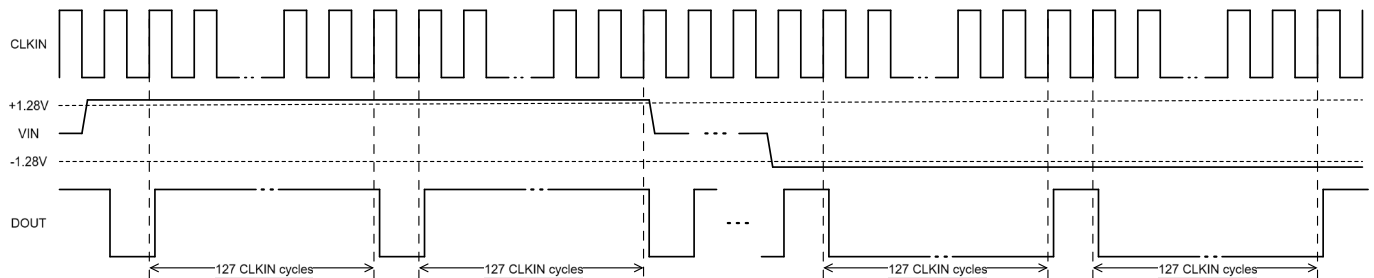

Figure 8.3 Overage output
- If an overrange input signal is applied to the NSI1316 ($V_{IN} \geq V_{CLIPPING}$), the output generates a single 0 or 1 every 128 clock cycles, as shown in Figure 8.3.